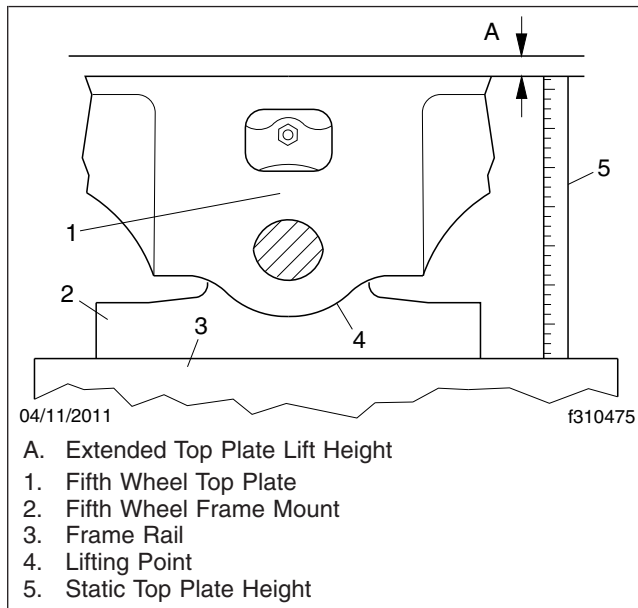

Fig. 7, Measuring Fifth Wheel Top Plate Lift
7. Level the fifth wheel plate to a horizontal position. Measure the height from a stationary mounting point (see **Fig. 7**, item 3), such as the frame rail to the top of the fifth wheel plate (item 1). Pry up on the fifth wheel plate (item 4) below the pin boss, and measure the vertical movement (item 5). The bracket connection provides a 9/32 inch (7 mm) vertical clearance to provide cushioning and to avoid downward pin-loading while retaining minimum plate lift. If the plate lift (Ref. A) exceeds 5/16 inch (8 mm) as a result of wear or rubber deterioration, install new bracket-shoe rubber pads.